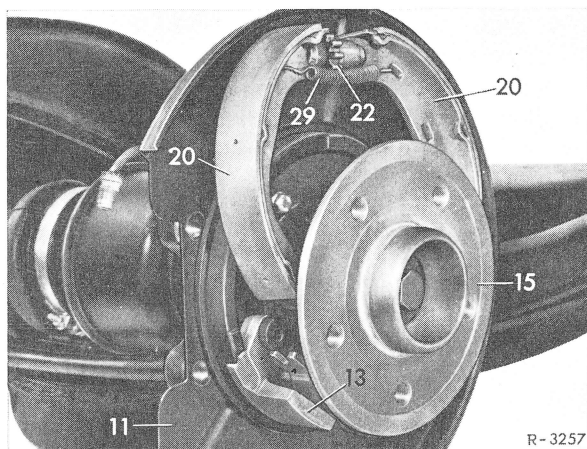

Fig. 12
11 Tighten both hex. socket screws for attaching supporting web (13). Tightening torque 50 Nm (5 kpm) (Fig. 12).
15 Pull brake shoes (20) apart, insert over rear axle shaft flange (15) and attach to expanding lock (Fig. 12).